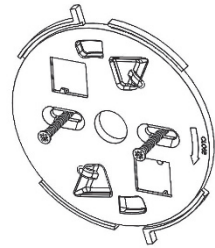

Figure 7
3. Using the mounting holes as a template, secure the mounting bracket to the mounting surface (*see Figure 7*).